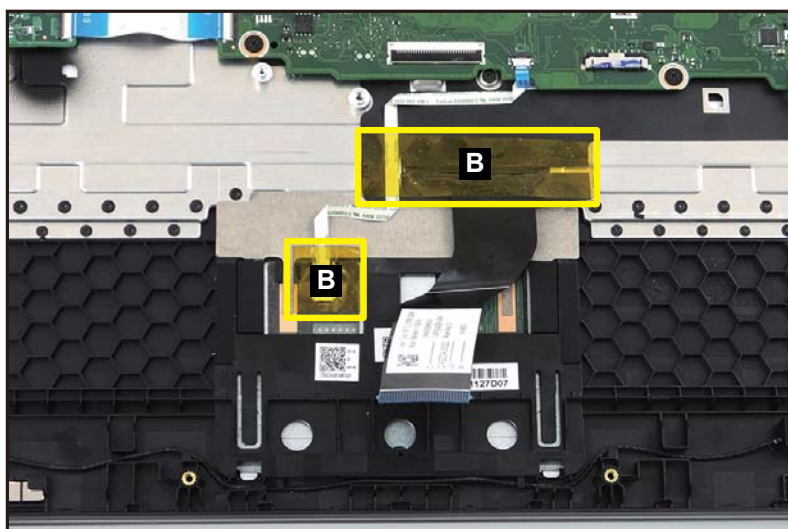

Figure 1-10. Touchpad Module Removal
2. Detach the adhesive tape (B) securing the touchpad FFC on the touchpad module. Then detach another adhesive tape from the opening on the keyboard compartment (for keyboard FPC routing) (Figure 1-10).